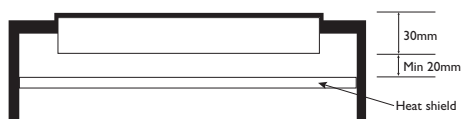

Fig. 1
- Heat shield eg. Melamine board, is to positioned a minimum of 20mm below cooktop when positioned above cupboard or drawer unit (Fig 1).